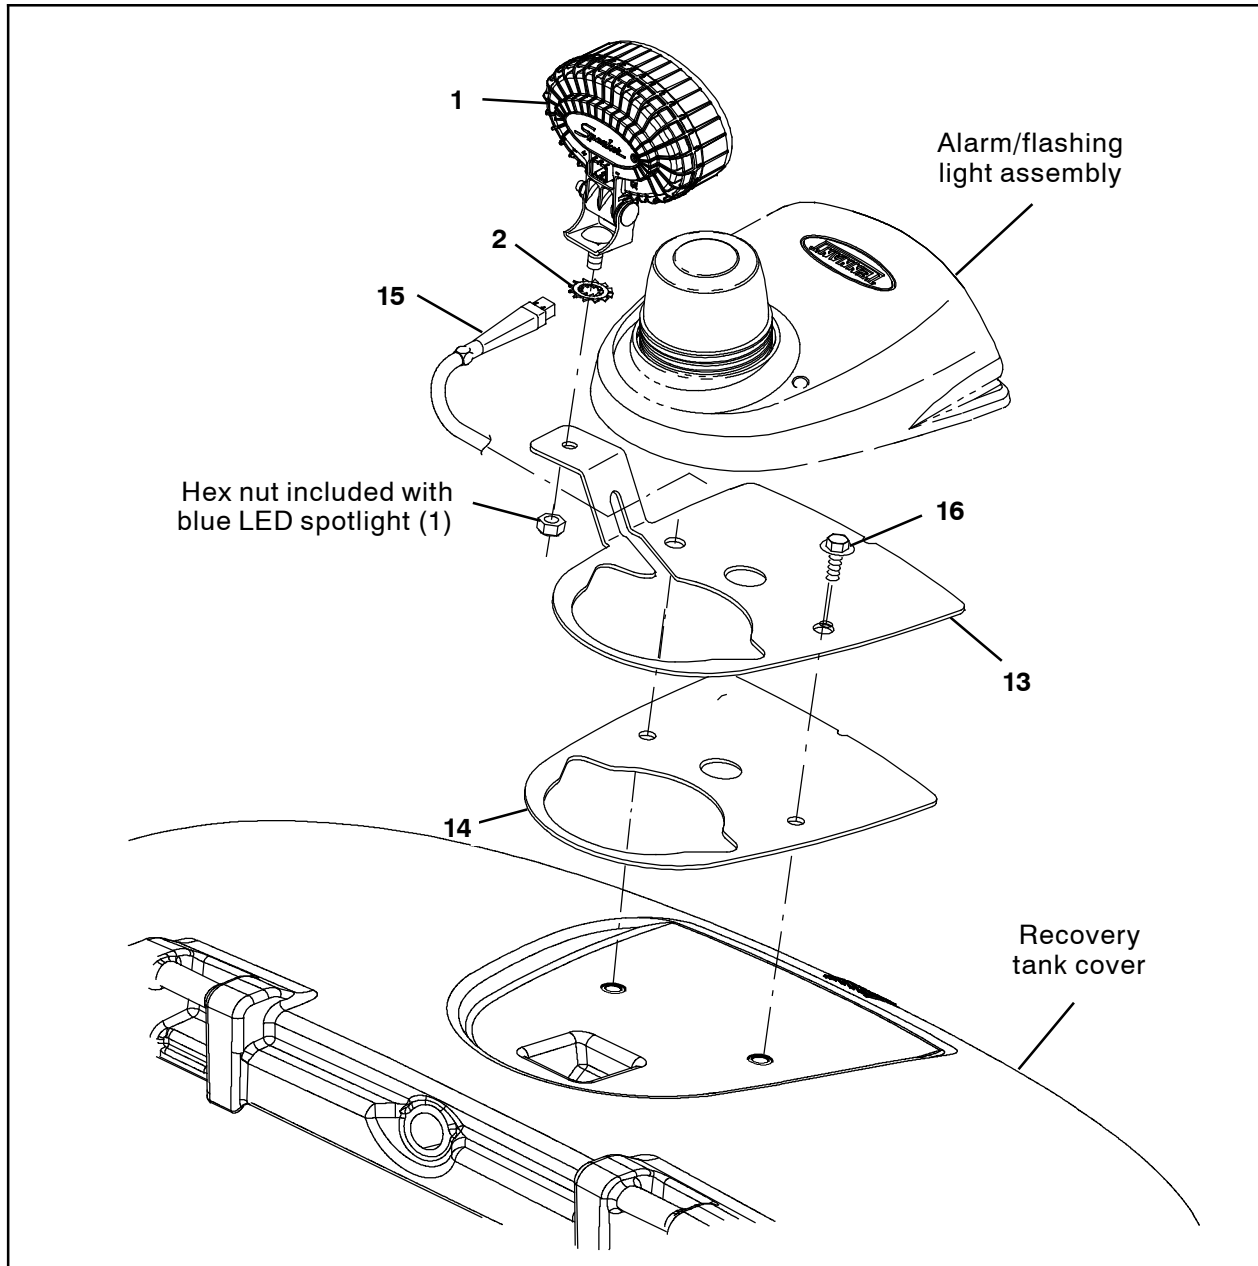
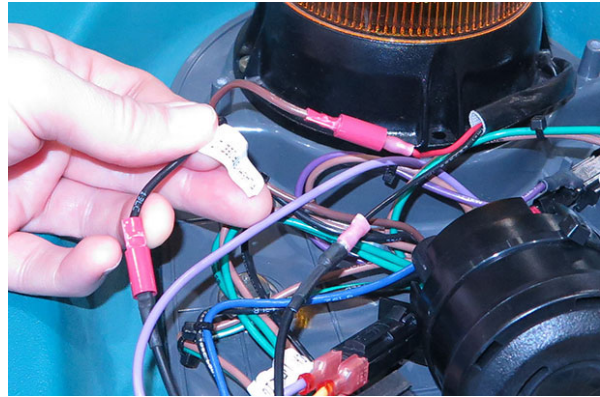
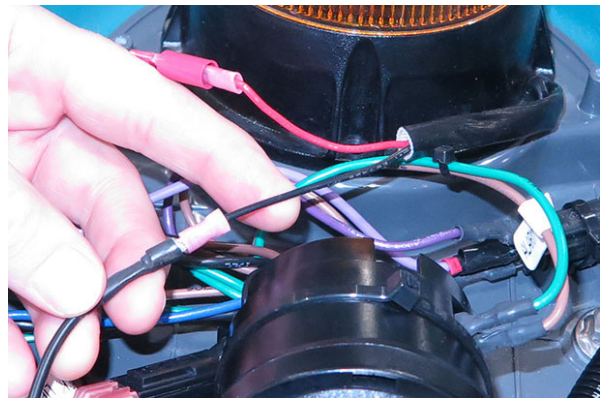
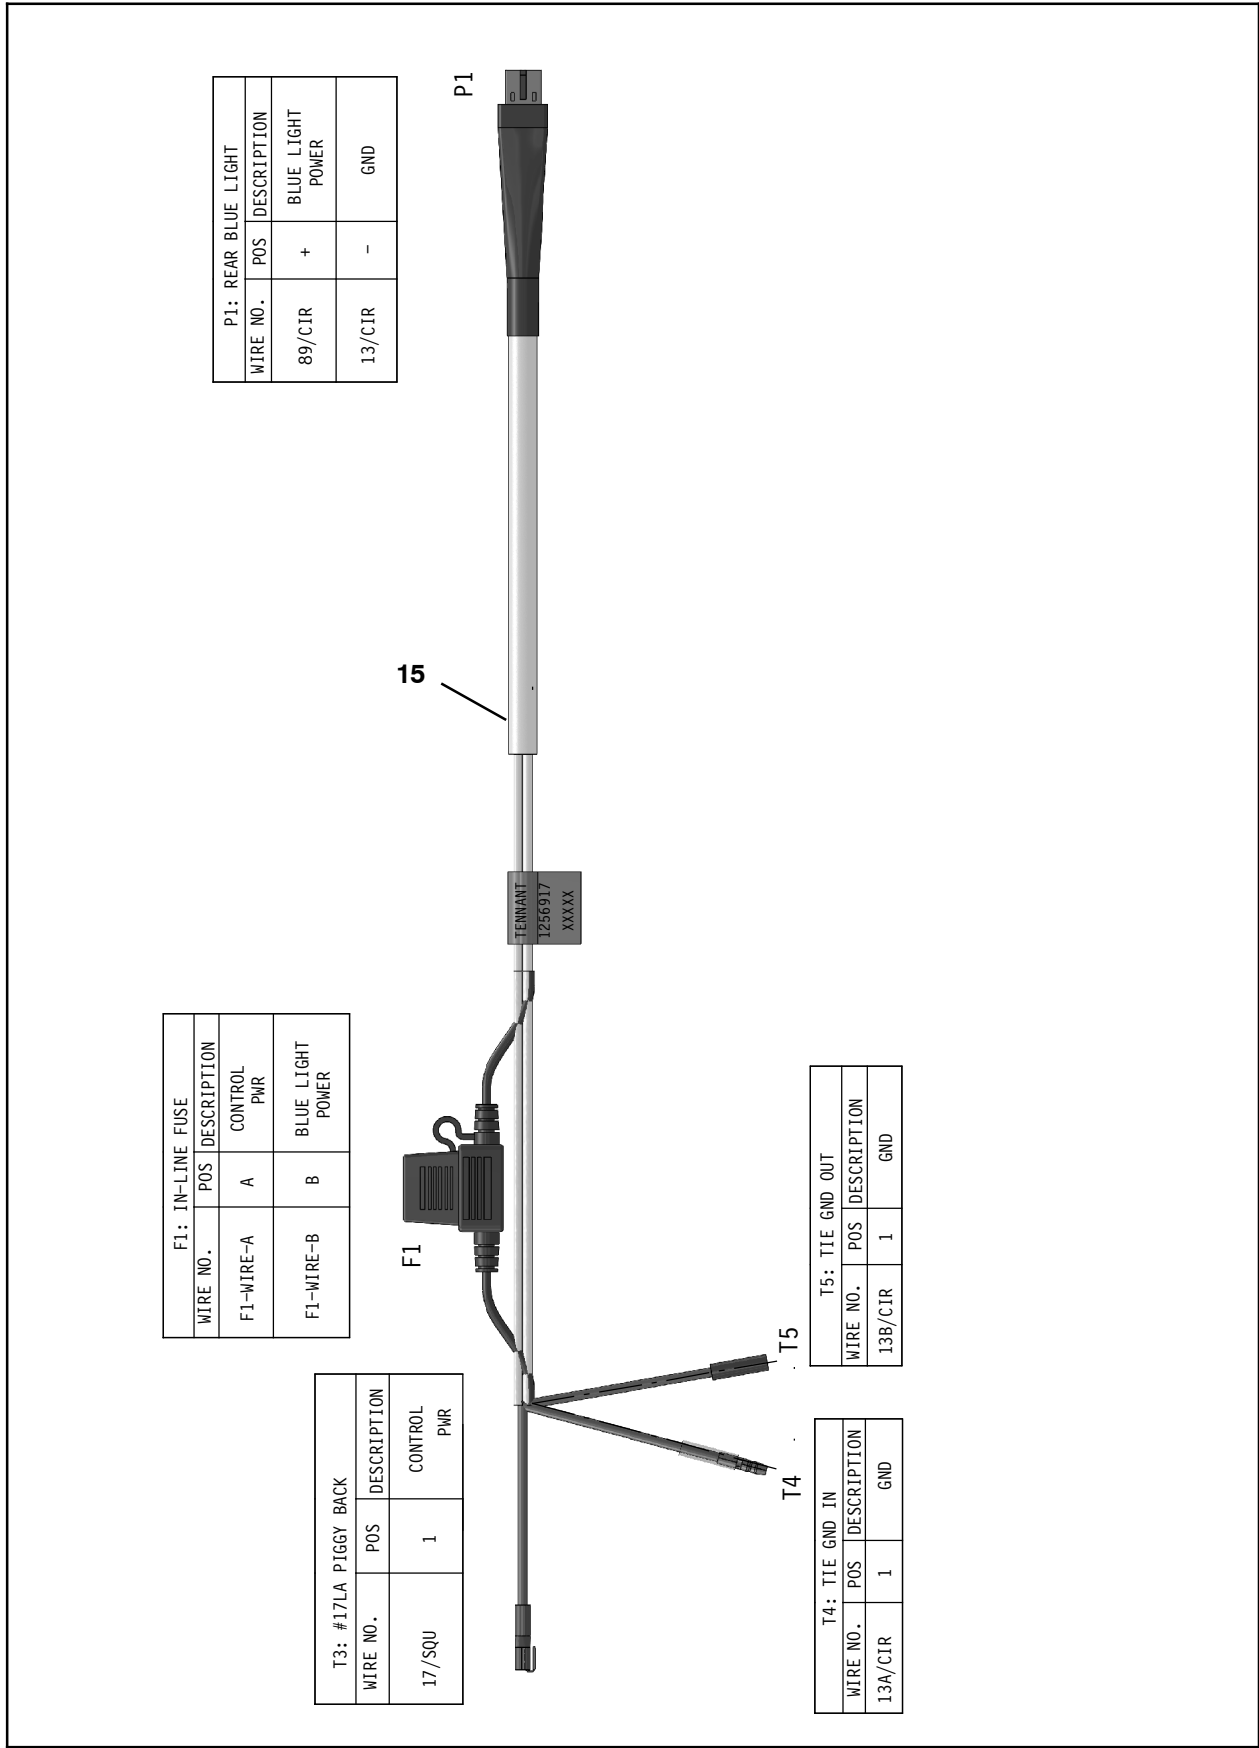

FIG. 26
FIG. 28
FIG. 29
FIG. 30
32. Remove the two pan screws securing the light module cover to the alarm/flashing light assembly. Set the pan screws aside. (Fig. 26)
33. Carefully lift the light module cover from the alarm/flashing light assembly and allow the cover to hang out of the way. (Fig. 26)
34. Remove the two SEMS M8 hex screws securing the alarm/flashing light assembly to the recovery tank cover from the alarm/flashing light assembly. Set the SEMS M8 hex screws aside. (Fig. 26)
35. Carefully move the alarm/flashing light assembly away from where it was installed on the recovery tank. Do not disconnect all harness connections/completely remove the alarm/flashing light assembly from the recovery tank cover. (Fig. 26)
36. Remove the backing from the module base gasket (14) and install the gasket onto the blue spotlight rear cover mounting bracket (13). (Fig. 26)
37. Use two SEMS M8 hex screws (16) to install the blue spotlight rear cover mounting bracket (13) onto the recovery tank cover. (Fig. 26)
38. Install the alarm/flashing light assembly onto the rear cover mounting bracket (13). Do not install the light module cover onto the alarm/flashing light assembly. Light module cover is later installed after all cable connections are completed. (Fig. 26)
39. Remove the hex nut included with the blue LED spotlight (1) from the light. (Fig. 26)
40. Use the hex nut removed from the blue LED spotlight (1) in the previous step and a lock washer (2) to install the blue LED spotlight onto the rear cover mounting bracket (13). (Fig. 26)
41. Route the blue spotlight rear harness (15) through the notch in the blue spotlight rear cover mounting bracket (13) and connect the blue spotlight rear harness to the blue LED spotlight (1). (Fig. 26/Fig. 30)
45. Disconnect the 13/LC lead labeled FLASH/STROBE LT from the flashing light on the alarm/flashing light assembly. (Fig. 28)
46. Connect the blue spotlight rear harness (15) T4 lead to the 13/LC lead labeled FLASH/STROBE LT disconnected from the flashing light in the previous step. (Fig. 28/Fig. 30)
47. Connect the flashing light black lead previously disconnected from the 13/LC lead labeled FLASH/STROBE LT to the blue spotlight rear harness (15) T5 lead. (Fig. 29/Fig. 30)
48. Reinstall the light module cover onto the alarm/flashing light assembly. (Fig. 29)